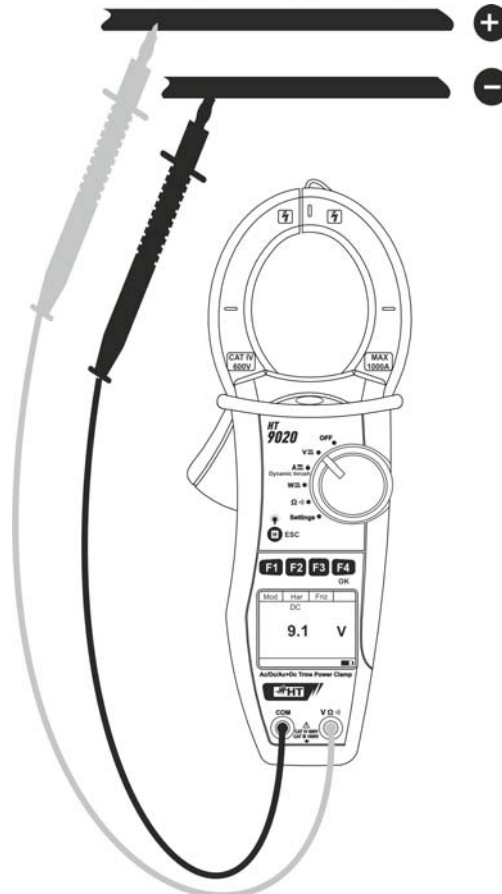

Fig. 5: DC Voltage measurement
4. Connect red cable to input lead **VΩ[⌚]** and black cable to input lead **COM** then position the leads at the desired points of the circuit under test (see Fig. 5)